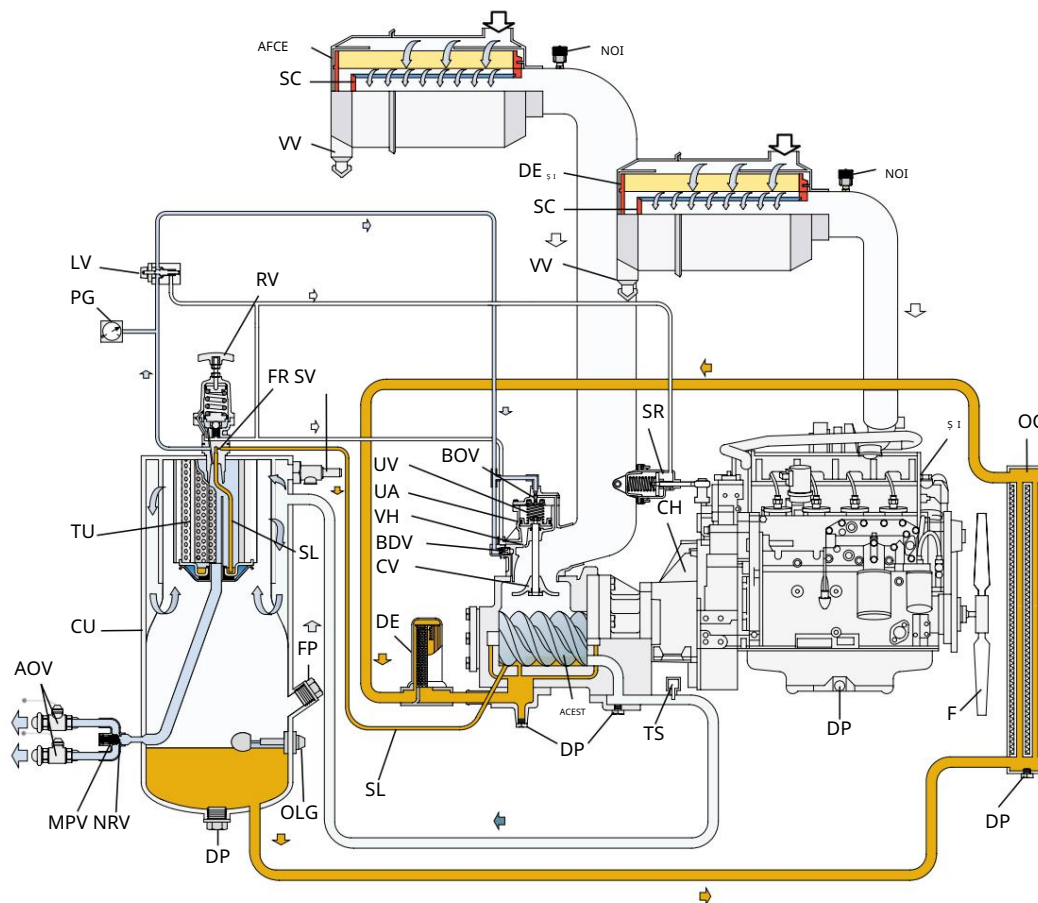

Fig. 2.3
2.5 DEBUT DE AER (VEZI FIG. 2.3)
2.6 SISTEMUL DE ULEI (VEZI FIG. 2.3)
2.7 SISTEM DE REGLARE CONTINUĂ (VEZI FIG. 2.3)